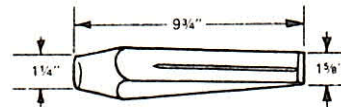

Fig. 20—Wedge
- (c) Wear safety goggles when striking wedge. See Fig. 20.